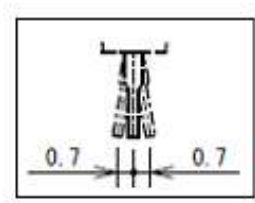

fig.12
*In the fig.12 of front view which is common to MPM01-04, product numbers of each model name should be printed in **.